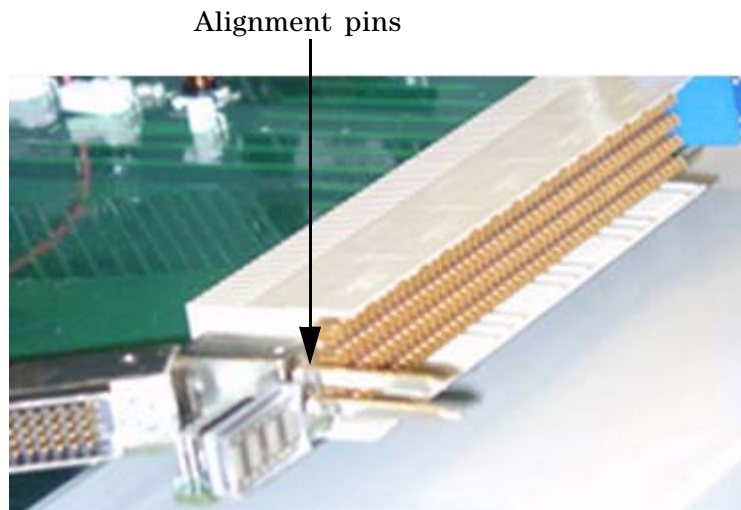

Figure 3 Alignment pins on the probe board
- While handling a probe board, stay alert from the dangerous alignment pins that are made up of metal (Figure 3). They have a potential risk of causing injury.